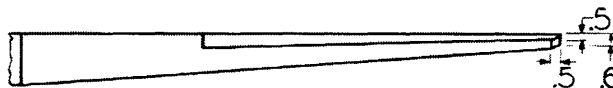
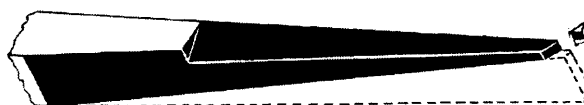

Fig. 27-14
Fig. 27-14P
9. File off the under side and tip as shown in figure 27-14 and figure 27-14P. This will be used as a seat cutting tool.